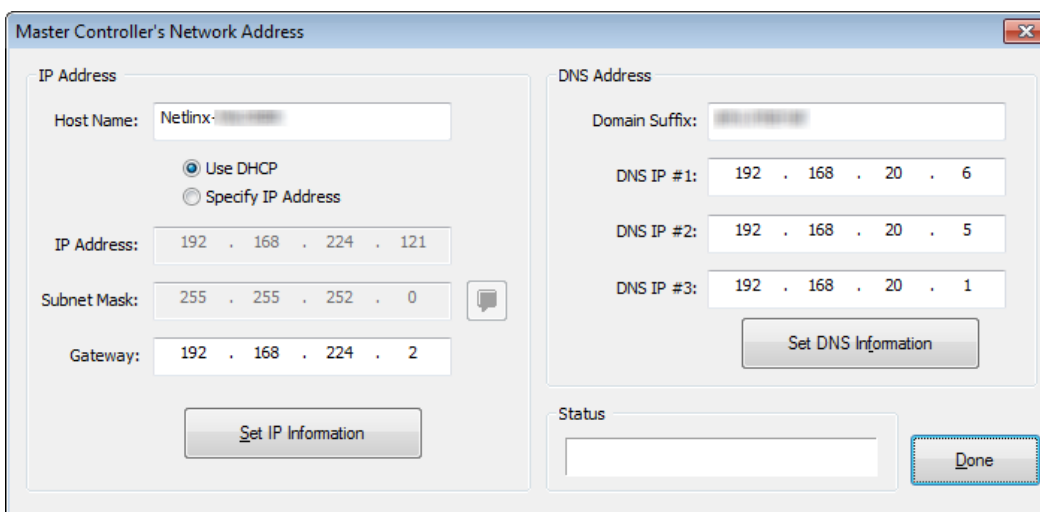

FIG. 30 Master Controller's Network Address dialog
- Select **Options > Master's Network Address** to open the *Master Controller's Network Address* dialog (FIG. 30):